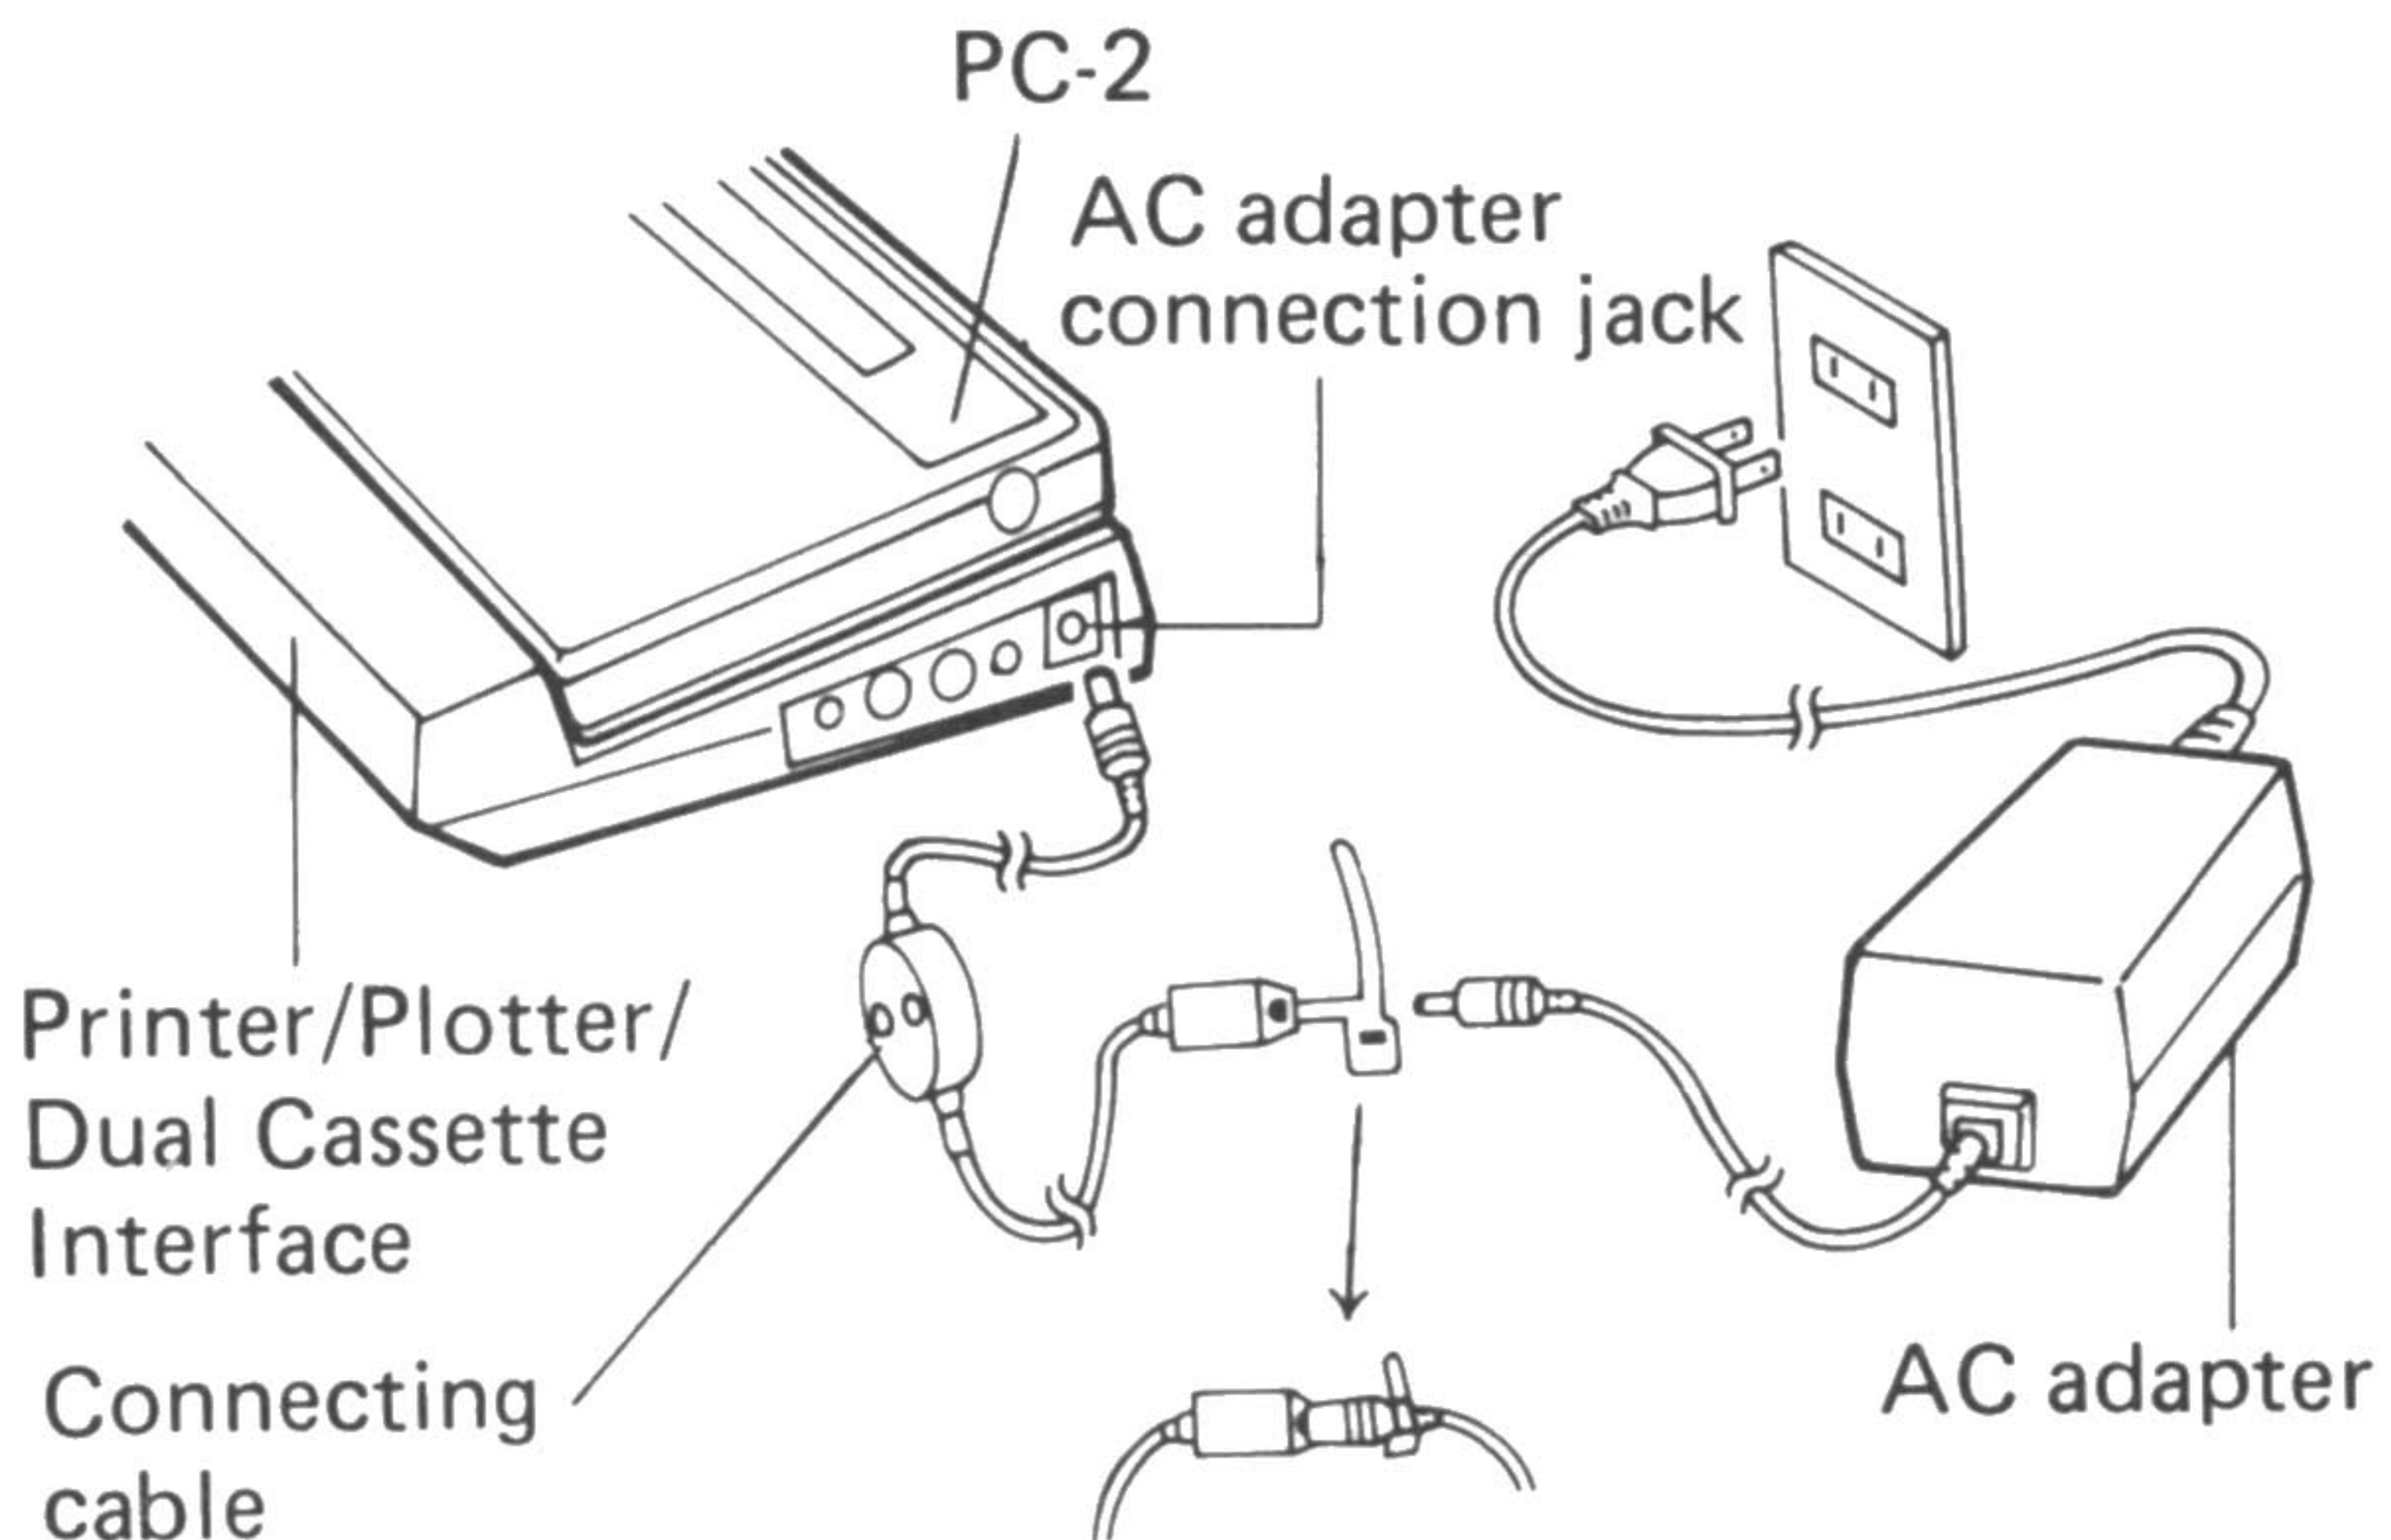

Figure 6. Using the AC Adapter with the Printer/Plotter/Dual Cassette Interface.
4. (For U.S.A. only) If you are using an external power supply for Printer/Plotter/Dual Cassette Interface, plug the Choke Cable into the external power supply connector of the Printer/Plotter/Dual Cassette Interface. (See Figure 6.)